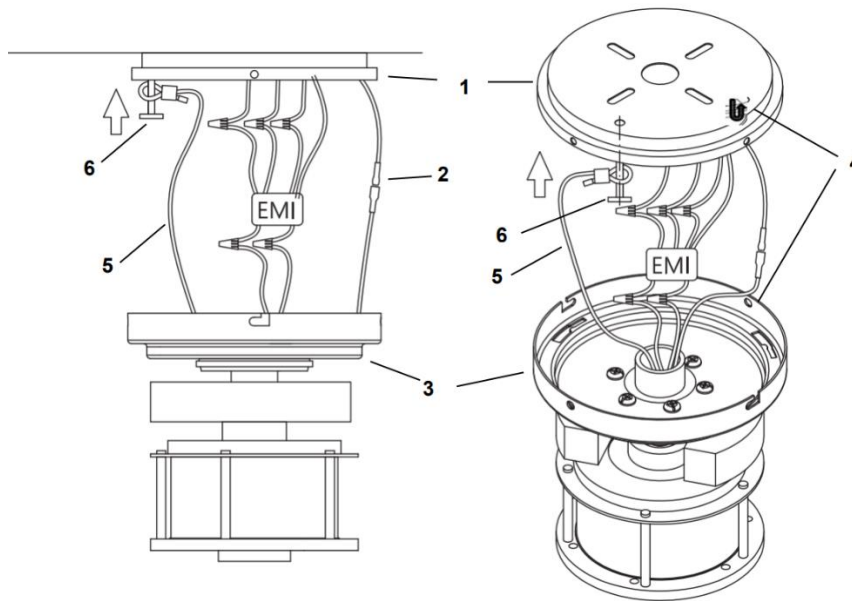
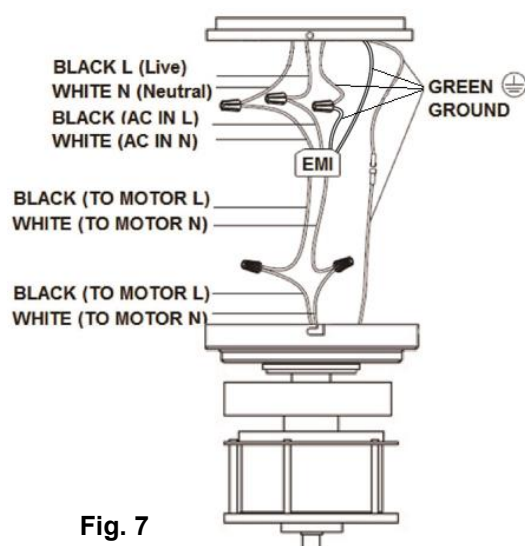

Fig. 6
Fig. 7
1. Lift the fan assembly to the mounting bracket (1) and let the J-hook of the mounting bracket (4) go through the hole of the hanging plate and hang up the fan assembly (3). Fig. 6
2. Connect the male and female connector together (2). Fig. 6
3. Pull the safety cable (5) on the scrow (6) and tight . lock the scrow (6) into the ceiling through the hole of mounting bracket , tight the safety cable .
4. Complete the electrical wiring using the diagram below (Figure. 7).
1. Connect the household live supply wire (black) to EMI filter input wire (black, AC IN L) as shown in Fig. 7.